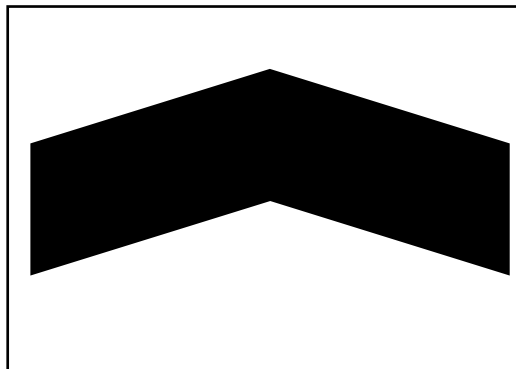

Figure 1-7-1
- Then, press the Enter key so that a cleaning sheet (Figure 1-7-1) will be printed.